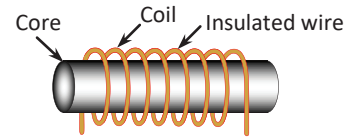
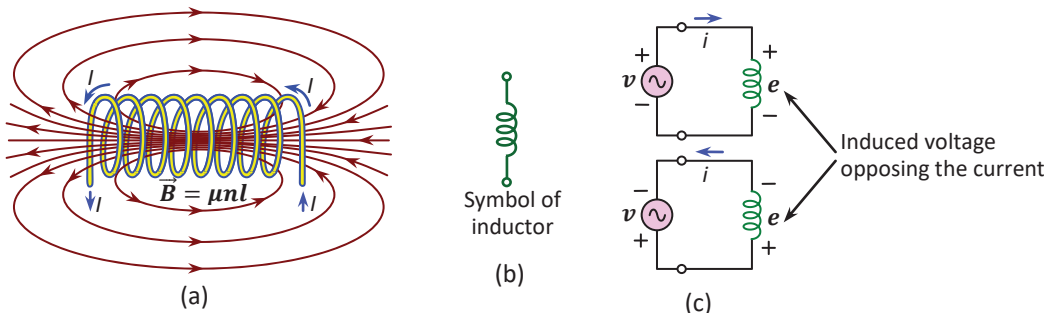

Fig.1-15: Inductor
Fig.1-16: Inductor: (a) Coil with magnetic field, (b) Symbol of inductor, and (c) Inductors with induced voltage
**Inductor** (also called coil, choke, or reactor) is a passive two-terminal electrical component that stores energy in magnetic field when electric current flows through them. An inductor typically consists of an insulated wire, wound into a coil around a core (Fig.1-15). When current flows through an inductor magnetic field is produced inside the coil as shown in Fig.1-16(a). If the current flowing through the inductor changes with time, magnetic field also varies with time, and this time-varying magnetic field induces an electromotive force or voltage ( $\epsilon = -Ndi/dt$ ) across the inductor as described by Faraday's law of electromagnetic induction [Fig.1-16(c)]. According to Lenz's law, the induced voltage has such a polarity (direction) that it opposes the change in current that produces it. As a result, inductors oppose any change in current (AC current) through them by inducing a voltage (in opposite direction). The ability of an inductor to oppose the AC current is measured by a parameter called **inductance** and is denoted by  $L$ . Inductance is defined as the ratio of the induced voltage to the rate of change of current ( $L = e/(di/dt)$ ). In the SI system, the unit of inductance is **Henry** (H). Along with capacitor and resistor, inductor is one of the three passive linear circuit elements that make up electrical and electronic circuits.